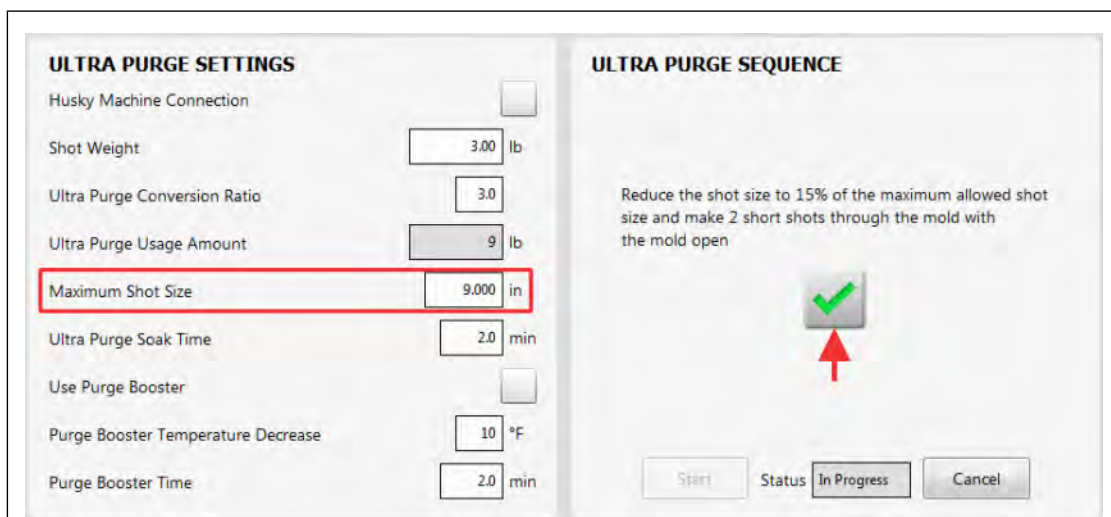

Figure 13-12 Reduce Shot Size to 15% of the Maximum Allowed
15. Reduce the shot size to 15% of the maximum shot size allowed (refer to Figure 13-12).
17. Touch the check mark button to continue (Figure 13-12).